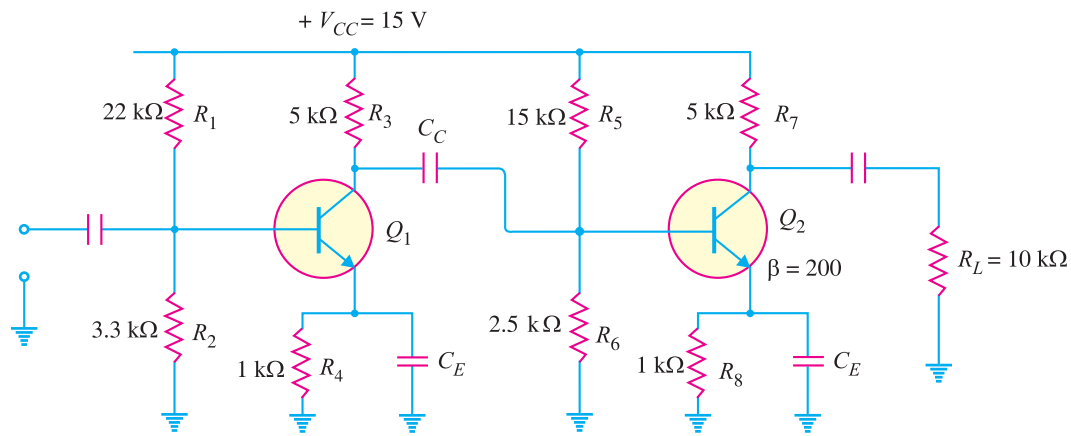

Fig. 11.14
**Example 11.15.** Fig. 11.14 shows a 2-stage RC coupled amplifier. Find the voltage gain of (i) first stage (ii) second stage and (iii) overall voltage gain.